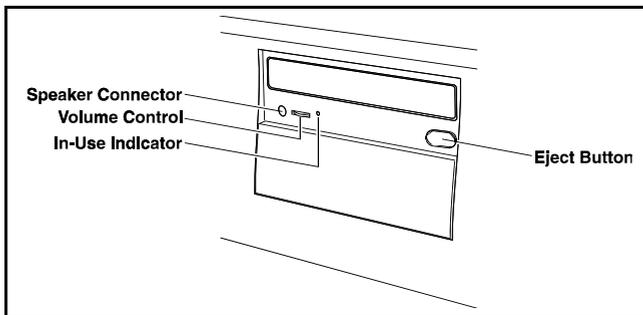

Figure 2-6. CD-ROM Drive
2. Push the eject button (see Figure 2-6) and the CD tray will slide out.